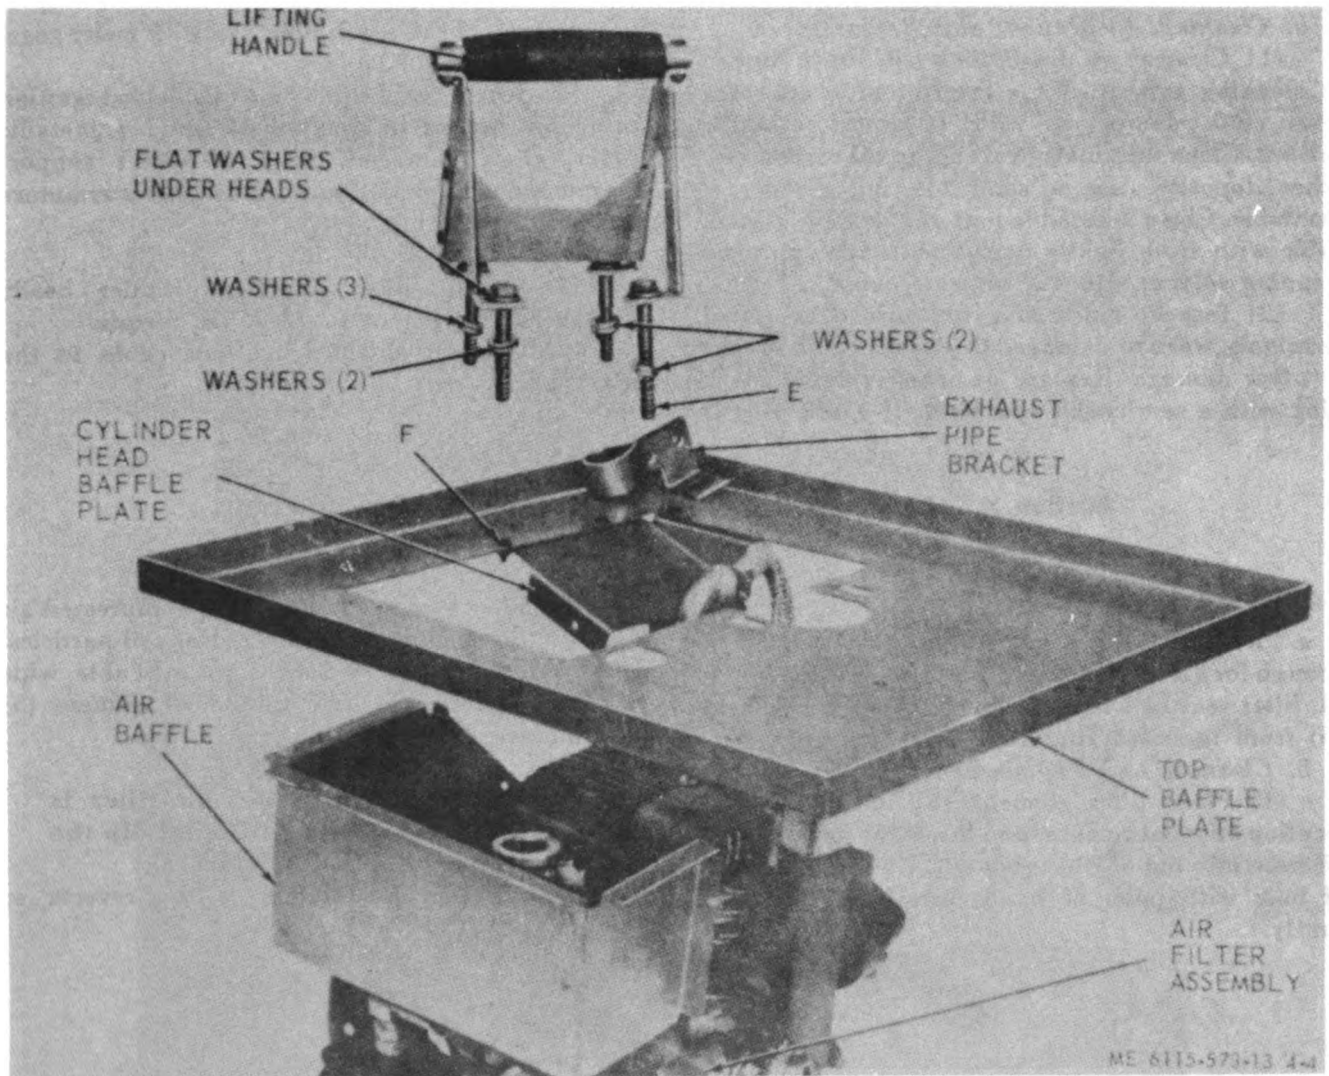

Figure 4-4. Top baffle plate, cylinder head baffle plate, and lifting handle, removal and installation.
(1) Remove the head bolts (E, fig. 4-4), securing the lifting handle to the engine, and remove the handle.
(2) Remove the two screws holding the muffler bracket to the top baffle plate. Loosen the nut holding the muffler bracket to the mufflers so
(1) Remove the mufflers and lifting handle (para 4-16).
(2) Remove all screws (F, fig. 4-4) from the top baffle plate except those securing the nameplate.
(3) Remove screws securing the cylinder head baffle plate to the top baffle plate and separate the two plates.
(4) Replace an unserviceable plate with a serviceable like item.